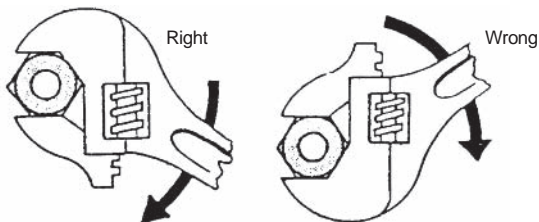

Figure 1.3
- Face adjustable wrench forward and turn wrench so pressure is against the permanent jaw (Figure 1.3).